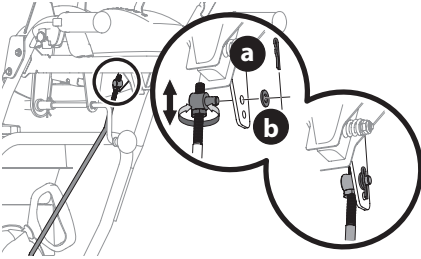

Figure 56
2. Remove cotter pin (a) and washer (b) from adjustment ferrule on shift rod and pull it out from shift lever (Figure 56).